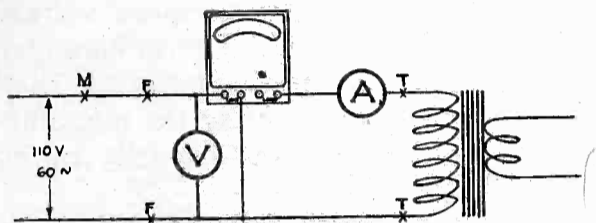

Fig. 1. Connections for Measurement of Power Factor.
Power factor is easily determined by taking simultaneous readings of wattmeter, voltmeter, and ammeter, connected as shown in Fig. 1. The apparatus
With the apparatus generally available R can best be determined by connecting a storage battery shunted with a low range d. c. voltmeter at F-F in Fig. 1, the a. c. source being disconnected. From Ohm's Law, R equals the d. c. voltmeter reading divided by the ammeter reading (assuming the a. c. ammeter reads correct on d. c.). $R = E_d/I_d$ --- (8).